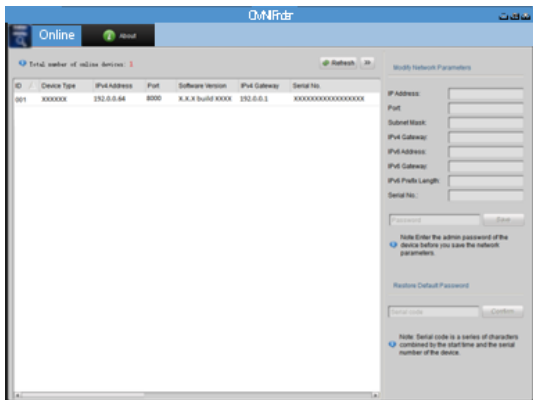

Figure 3-2 Search Online Devices
- ☐ Use OMNI Finder, a software tool which can automatically detect network camera on the LAN and list device information such as IP address, subnet mask, port number, device serial number, device version, etc., as shown in Figure 3.2 below.